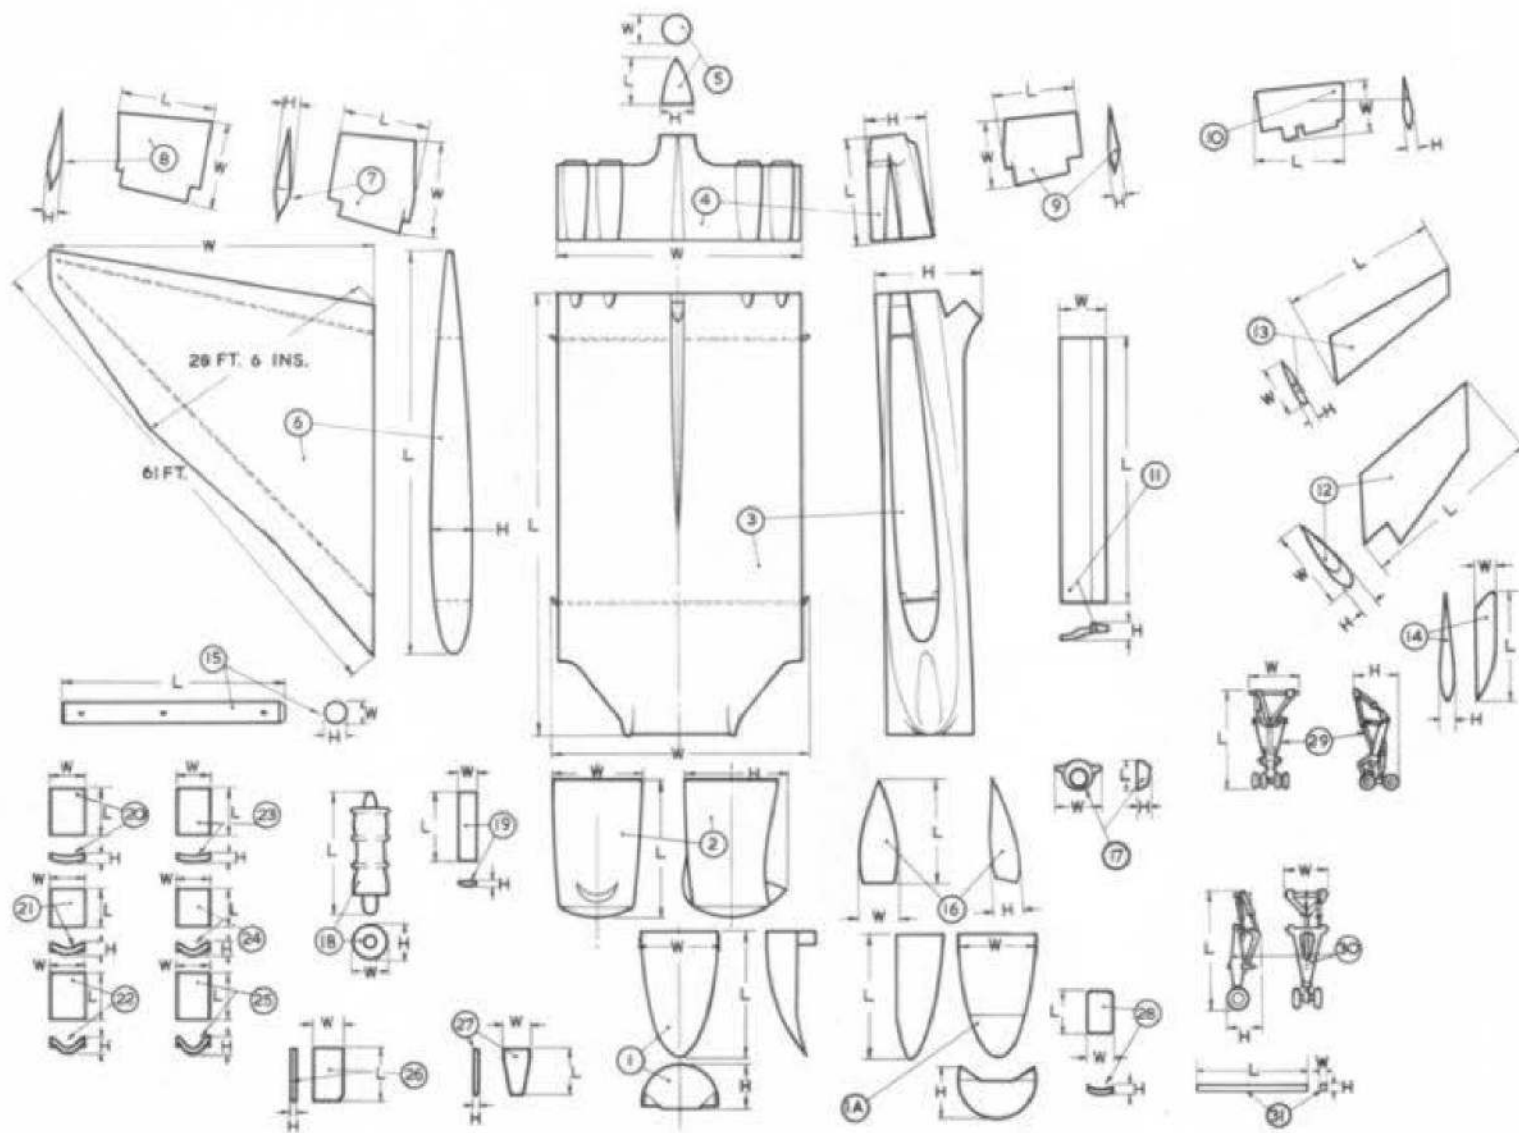

Fig. 3. Component weights and dimensions.
7. The weights and dimensions of the various components are given in the key to fig.3.
KEY TO FIG.3